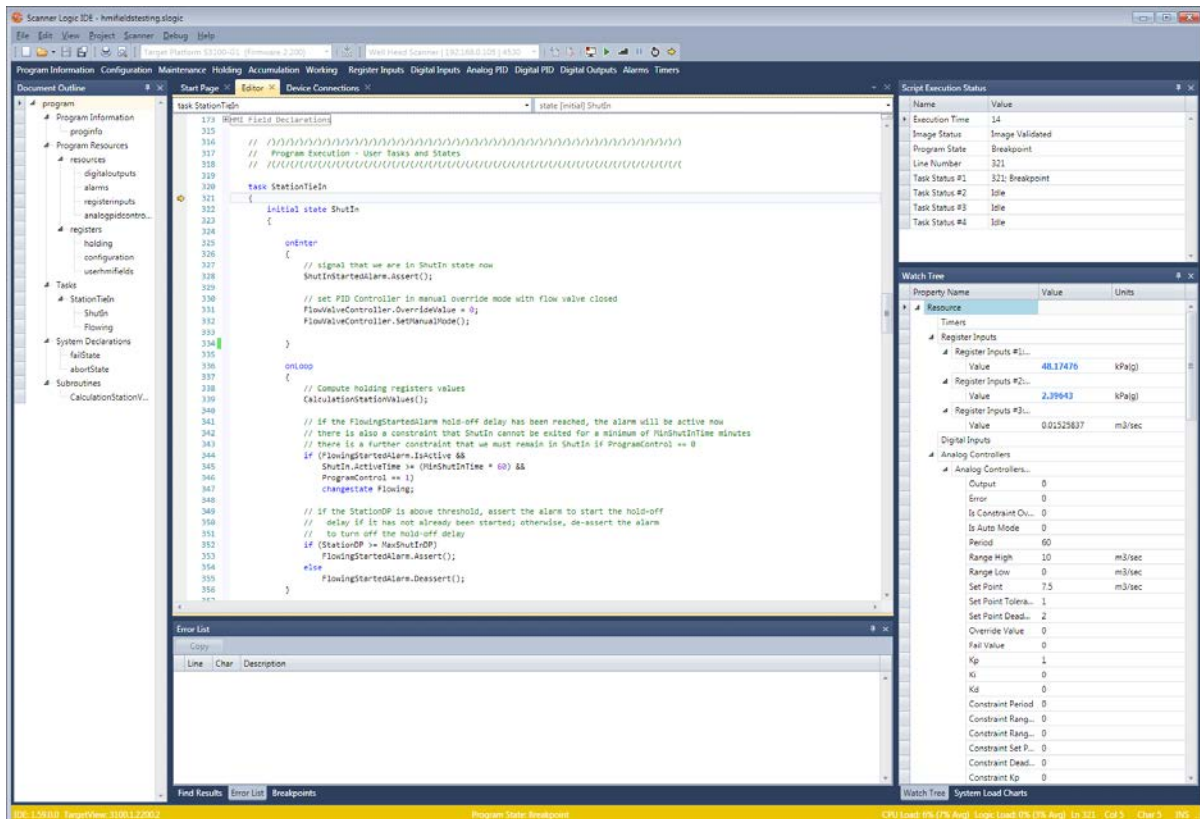

Figure 5.4—Debug mode windows default layout
- The IDE will transition into Debug mode. While in Debug mode, the Editor document will be set to read-only. The Debug mode has its own window layout (Figure 5.4) that can be modified by the user.